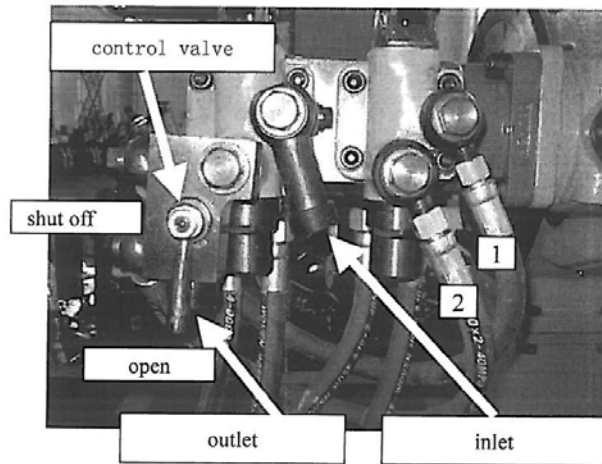
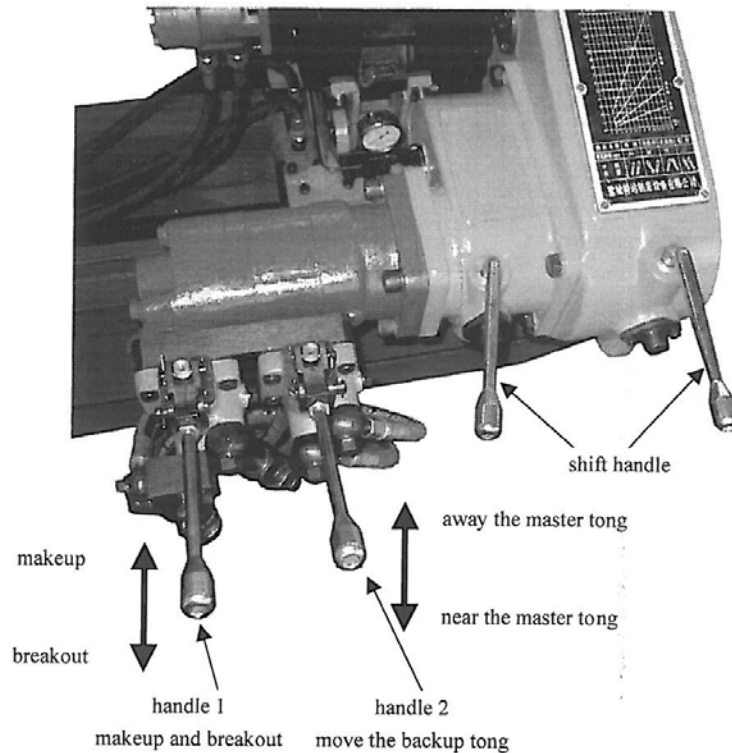

Fig.1
Fig.5
3.2.1 The inlet and outlet are shown in Fig. 1.
(The hand control valve of Fig. 1 is open in normal state. Operating handle 2 of Fig. 5. the backup tong will not move. If the hand control valve turn toward the shut off position, operating handle 2 of Fig. 5. the backup tong will move, the turn angle is bigger, the backup tong moving quickly.)
- Operating the handle 1 of hand control valve in Fig. 5 to make the unit turning, operating handle 2 in Fig. 5 to move backup tong if necessary,(the specific method of moving backup tong please see 3.2.1, open the control valve 1 fully in Fig. 1 after the backup tong moving to proper position), make the tubing or casing close to joint during moving the backup tong.
The breakout operation are similar with the makeup operation. The handle position of makeup operation please see Fig. 4 and Fig. 5.
There are two kinds of shifting handle in this unit, each handle have two position, there are four rotation speeds and four kinds torques available according to different combination of handle and position(the torque corresponding chart please see Fig. 4.). The handle position of all kind gear are shown in the operation illustration plate(please see Fig. 4 and Fig. 5). The operation of shifting gear should be carried through at low gear to avoid damage gear.
Open the adding oil valve upwardly(Fig. 8), shut off control valve (Fig. 1), the hydraulic power unit supply oil to hydraulic makeup and breakout unit, shut off adding oil valve and open control valve when the pressure of the torque indicating gauge rise.